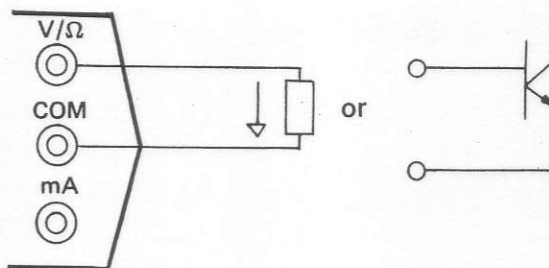

Fig. 5-3. Example of Connection for Diode Check
- When a diode is connected as illustrated in Fig. 5-3, ON voltage of the diode, i.e., forward voltage V_F is measured. Unit of reading is "V".